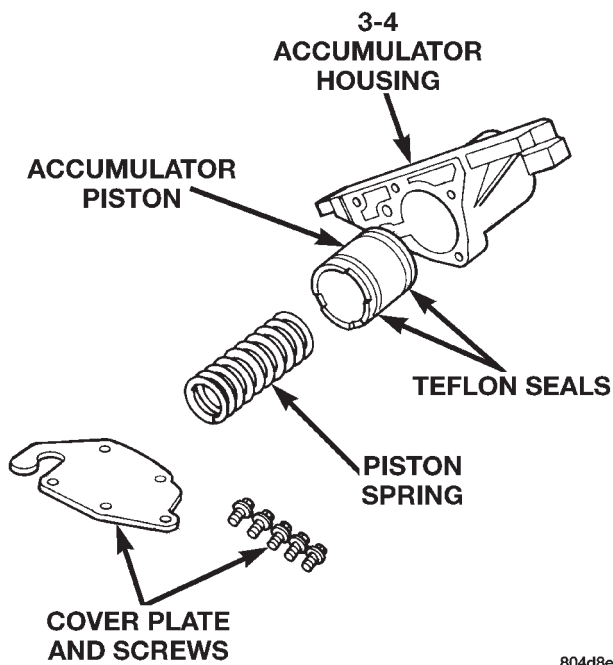

Fig. 77 Accumulator Housing Components
- (1) Remove end plate from housing.
- (2) Remove piston spring.
- (3) Remove piston. Remove and discard piston seals (Fig. 77).
(1) Lubricate accumulator piston, seals and housing piston bore with clean transmission fluid (Fig. 77).
(2) Install new seal rings on accumulator piston.
(3) Install piston and spring in housing.
(4) Install end plate on housing.